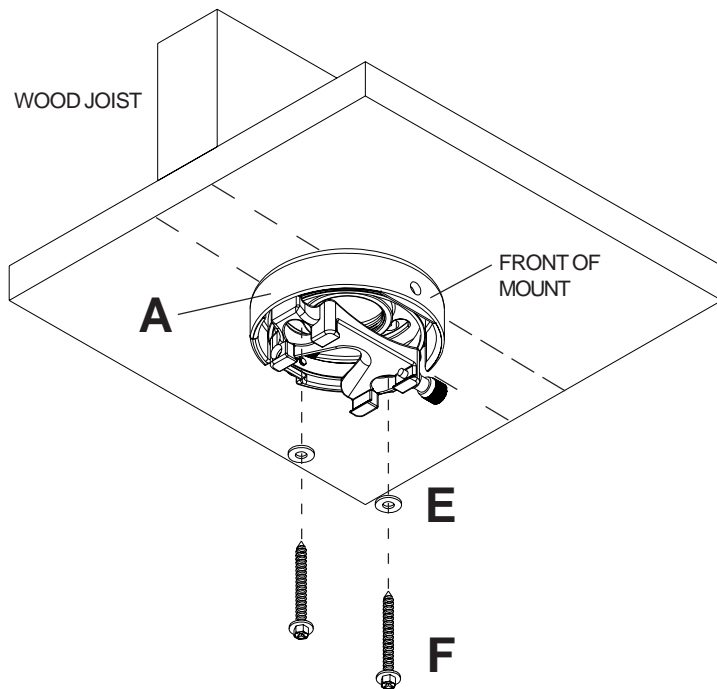
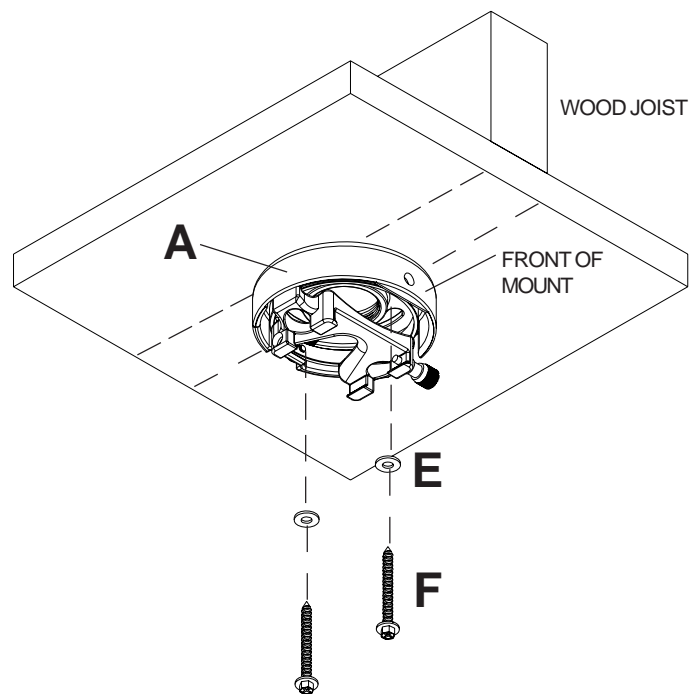

figure 1
figure 2
**1** Drill two 5/32" (4 mm) dia. holes to a minimum depth of 2.5" (64 mm). Attach projector mount assembly (A) with two #14 x 2.5" (6 mm x 65 mm) wood screws (F) and two flat washers (E) as shown in **figure 1** or **figure 2** depending on joist orientation. Tighten wood screws (F) using 3/8" (10 mm) socket wrench until projector mount assembly (A) is firmly attached.